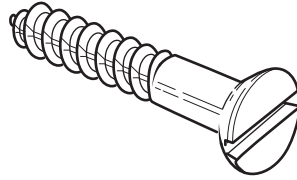

Fig. 1.1
- 1 Fig. 1.1 shows a screw.
Give **three** additional items of information required when ordering 200 of the screws shown in Fig. 1.1.